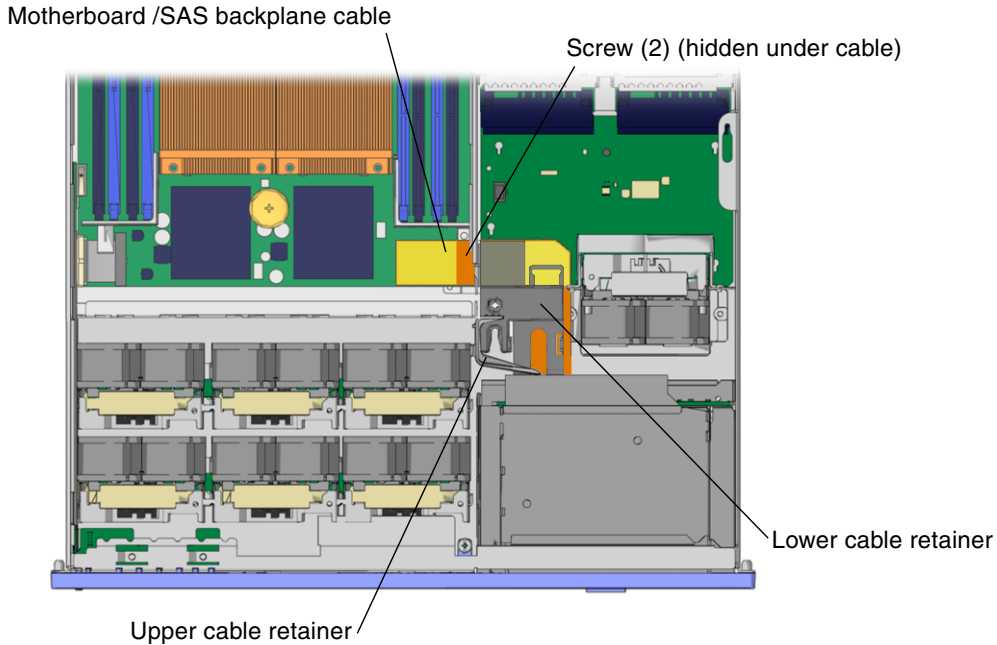

FIGURE 3-21 Upper and Lower Cable Retainers and Motherboard/SAS Backplane Cable
15. Remove the upper and lower cable retainers (FIGURE 3-21).
16. Remove the motherboard/SAS backplane cable (FIGURE 3-21).
6. **Reinstall the motherboard/SAS backplane cable to the motherboard (FIGURE 3-21).**
7. **Install the upper and lower cable retainers (FIGURE 3-21).**
6. Remove the upper and lower cable retainers for the motherboard/SAS backplane cable (FIGURE 3-21).
9. Reinstall the upper and lower cable retainers for the motherboard/SAS backplane cable (FIGURE 3-21).